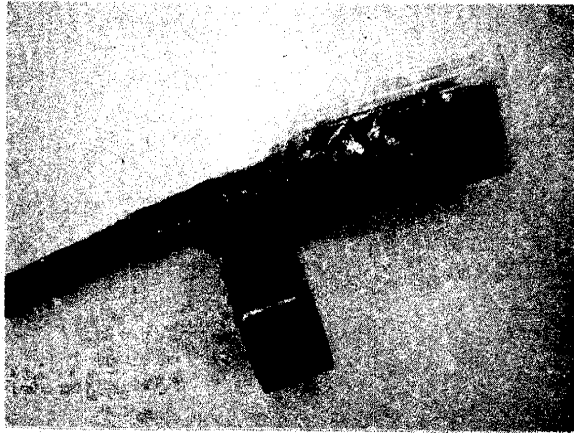

Figure 21
- 5.06 Bind open end of "Unipak" bag to B Service Wires using vinyl tape. Exercise care to prevent forcing any compound out of the "Unipak" bag to impair the taping operation and/or where it may get onto the hands etc. (See Figure 21).